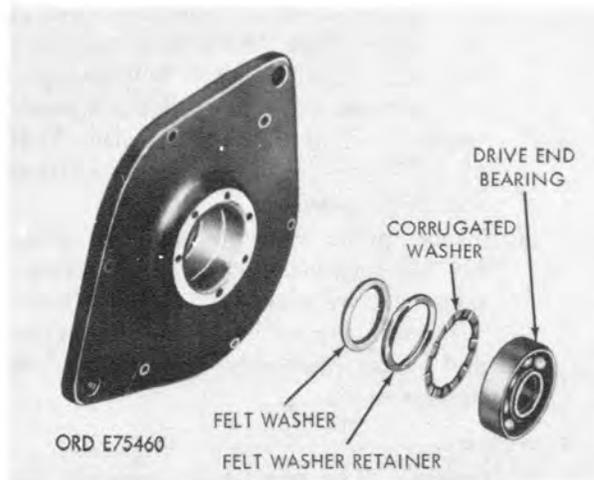

Figure 4-6. Disassembling drive end bell.
b. *Disassembly.* Remove the bearing and associated parts from the end bell as shown in figure 4-6.
a. Install felt washer with neoprene side of felt toward armature. Install felt washer retainer using suitable press (fig. 4-6).